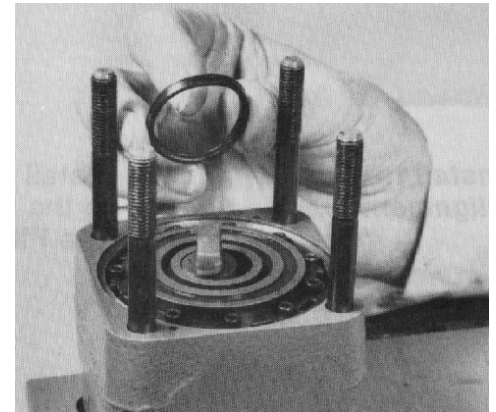

Figure 92
29. Apply clean multi-purpose grease on the new commutator seal and put it into the commutator cover seal groove (Fig. 92). The rubber portion (the softer side) of the seal with the yellow mark must be put into the seal groove.